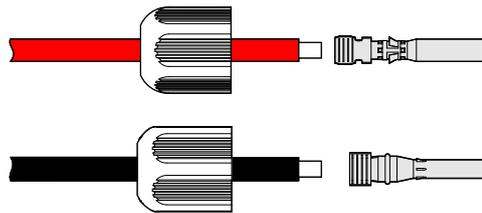

Figure3-19 Crimp the metal terminals
Step 2 Loosen the lock nuts of the positive and negative connectors, draw the PV sting input positive and negative wires through the corresponding lock nuts, and crimp the PV sting input positive wire and negative wire to the positive and negative metal terminals respectively, and then check whether the positive and negative wires are crimped firmly, as shown in Figure3-19.